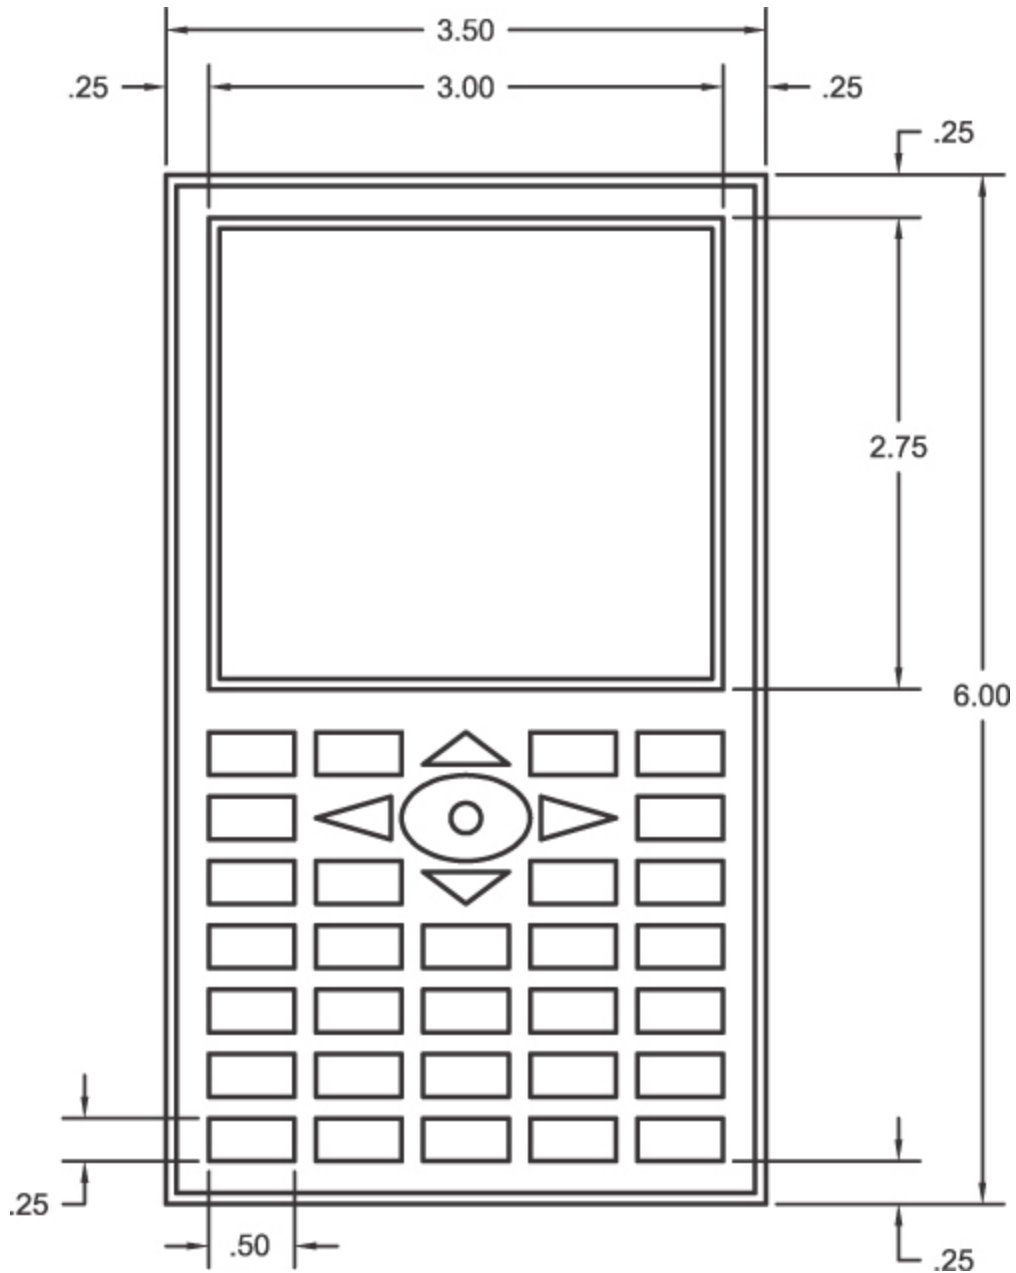

Figure 5-70
2. Draw the figure shown in Figure 5-70 using the appropriate grid and snap settings. Toggle the **Object Snap** button on and off as needed. The borders around the perimeter and around the screen area are 1/16". The spacing between the buttons is 1/8". **Do not** draw the dimensions.